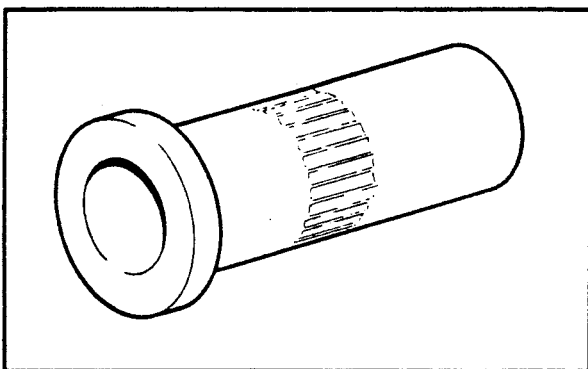

Figure 5-3. Journal Damage
2. See Figure 5-3. The journal surfaces should be smooth and free from damage. Check for ridges caused by the needle rollers in the journal surface.